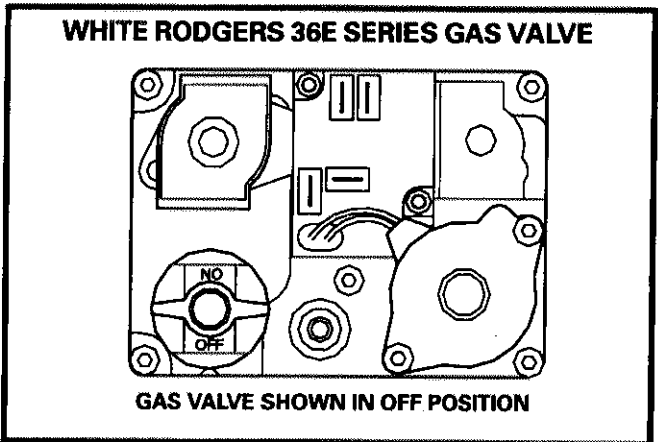

FIGURE 2
Gas Valve Operation (Figure 2)
- 6 – Turn knob on gas valve 180° either way to **OFF**. See figure 2. Do not force.
- 7 – Wait five (5) minutes to clear out any gas. If you then smell gas, **STOP!** Immediately call your gas supplier from a neighbor's phone. Follow the gas supplier's instructions. If you do not smell gas go to next step.